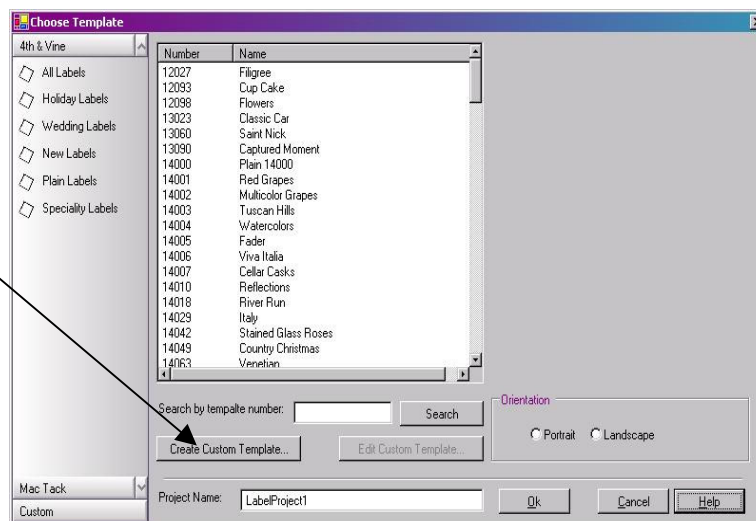

Figure 3.3.4: Create Custom Template
2. Click on the Create a Custom Template button (see Figure 3.3.4).